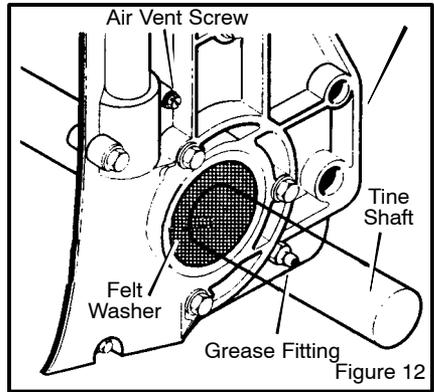

Figure 12
Every 25 hours and/or at the beginning of each season, make sure the gear box is filled with lubricant (see Figure 12). Tubes of gear lubricant are available from most automotive supply stores. Use portable tool grease such as Lubriplate 630AA (Product No. 06787, 1–3/4 oz. tube) or Lubriplate GR-132 (Product No. 15892, 10 oz. tube).
After cleaning and before storage, apply oil to the **tine shaft** (see Figure 12).
2. Remove the **air vent screw** (see Figure 12).
5. Check the condition of the **felt washer** (see Figure 12). Replace the **felt wash-**